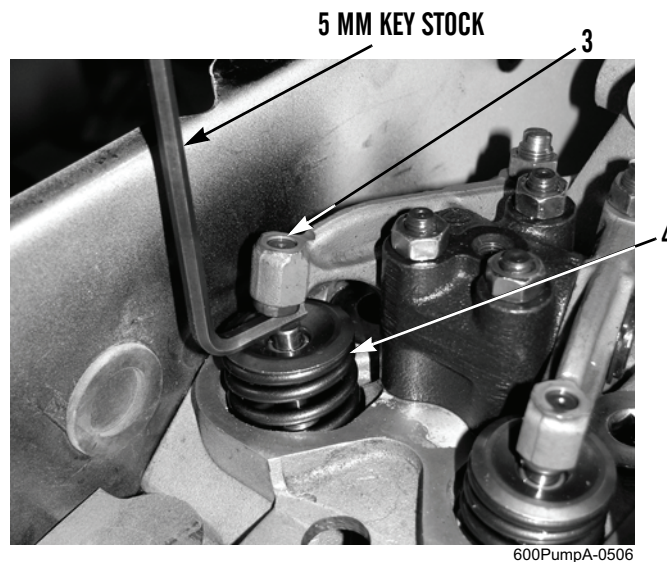

Figure 2. 5 mm Key Stock.
5. Depress intake valve (Figure 2, Item 4) and insert a 5 mm key stock between intake valve and rocker arm (Figure 2, Item 3).
6. Slowly turn crankshaft clockwise (right) until a significant increase in resistance to turning is felt. This indicates piston has made light contact with intake valve (Figure 2, Item 4). If mark on vibration damper (made in step 2) is again at top, crankshaft has been turned too far.
9. Remove 5 mm key stock from between rocker arm (Figure 2, Item 3) and intake valve (Figure 2, Item 4).
11. Reinsert 5 mm key stock between intake valve (Figure 2, Item 4) and rocker arm (Figure 2, Item 3).